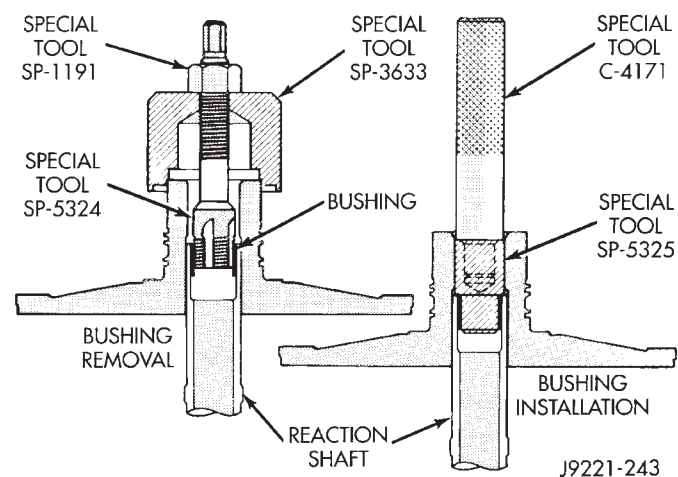

Fig. 46 Replacing Reaction Shaft Support Bushing
(1) Assemble Bushing Remover Tools SP-1191, 3633 and 5324 (Fig. 46). **Do not clamp any part of reaction shaft or support in vise.**
(2) Hold Cup Tool SP-3633 firmly against reaction shaft and thread remover SP-5324 into bushing as far
(3) Turn remover tool hex nut down against remover cup to pull bushing from shaft. Clean all chips from shaft after bushing removal.
(4) Lightly grip old bushing in vise or with pliers and back remover tool out of bushing.
(5) Assemble Bushing Installer Tools C-4171 and SP-5325 (Fig. 46).
(6) Slide new bushing onto Installer Tool SP-5325.
(7) Position reaction shaft support upright on a clean smooth surface.
(8) Align bushing in bore. Then tap bushing into place until Bushing Installer SP-5325 bottoms.
(9) Clean reaction shaft support thoroughly after installing bushing.